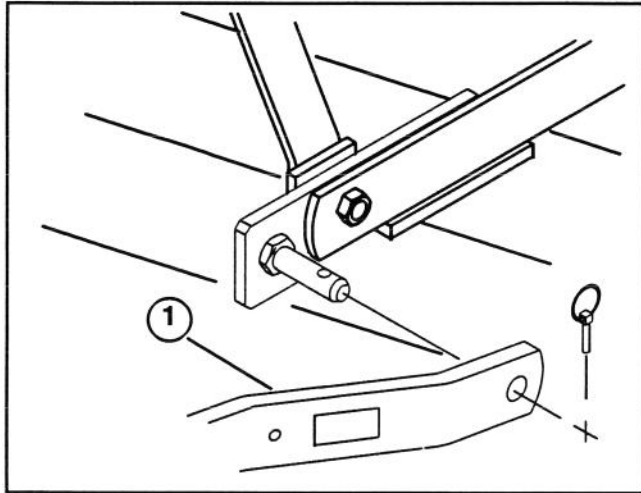

Figure 4
7. Mount a lower lift arm to each lower link plate pin with a lynch pin (Fig. 4).